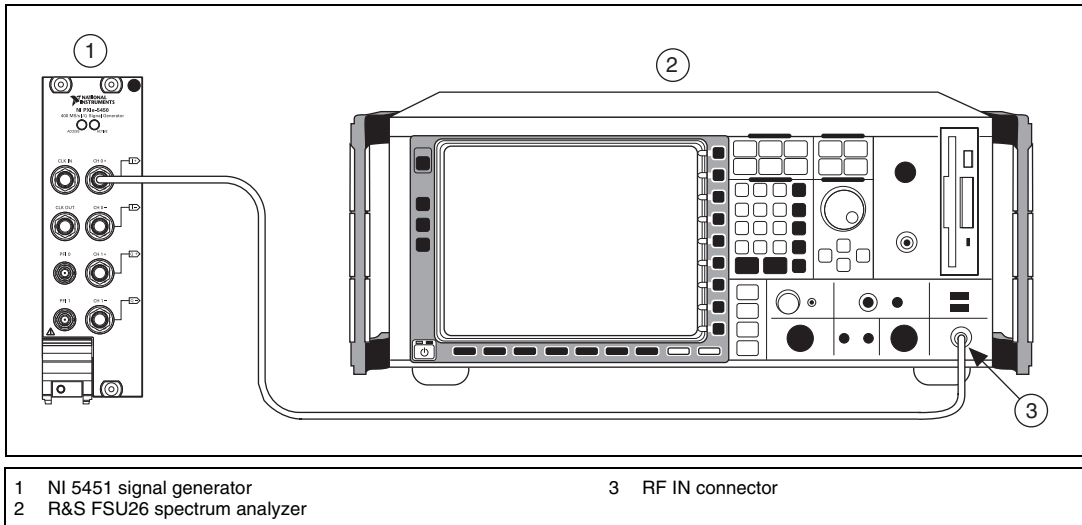

Figure 11. NI 5451 Connection to Spectrum Analyzer (CH 0)
1. Connect positive CH 0 to the spectrum analyzer, as shown in Figure 11.